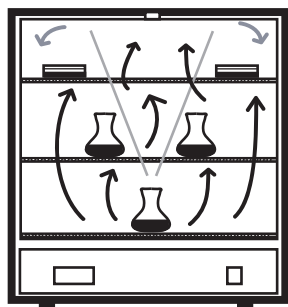

FIG. 5
- Stagger articles from those on lower shelves in a "V" formation. (FIG. 5)